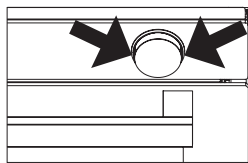
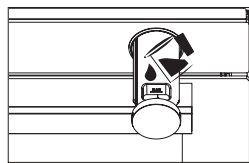
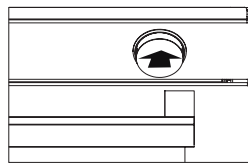
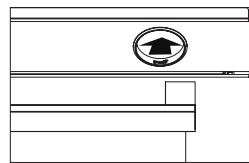

Figure 8
Figure 9
Figure 10
Figure 11
**1.** Remove the water container by pulling it out at the points indicated by the arrow. Fill the water container (see figure 8) and slide it in the direction of the arrow to the starting position to put it in place (see figure 9). (See Figure 10) After 10 minutes of preheating, slide the water container in the direction of the arrow until you hear a "click". (see figure 11)